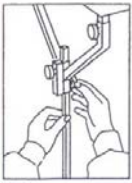

Fig.6
When traction is used or if an extremely rigid operating surface is needed, the accessory stainless table leg is provided. Insert table leg (D) into appropriate tube on the Y-Yoke and tighten adjustment knob (Fig. 6).